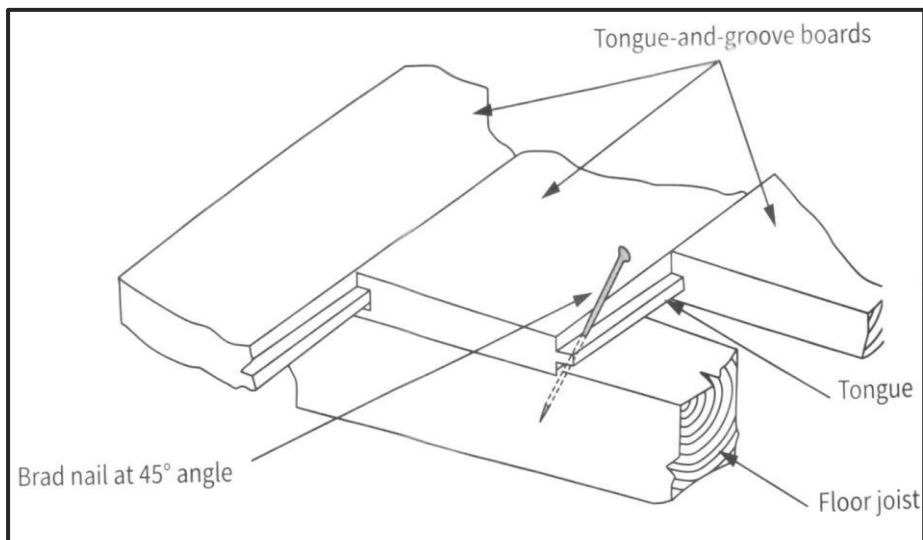

FIGURE 2.3
2.3 **FIGURE 2.3** below shows a particular method of joining suspended floors. Study the drawing and answer the questions that follow.
2.3.1 Identify the method in **FIGURE 2.3**. (1)